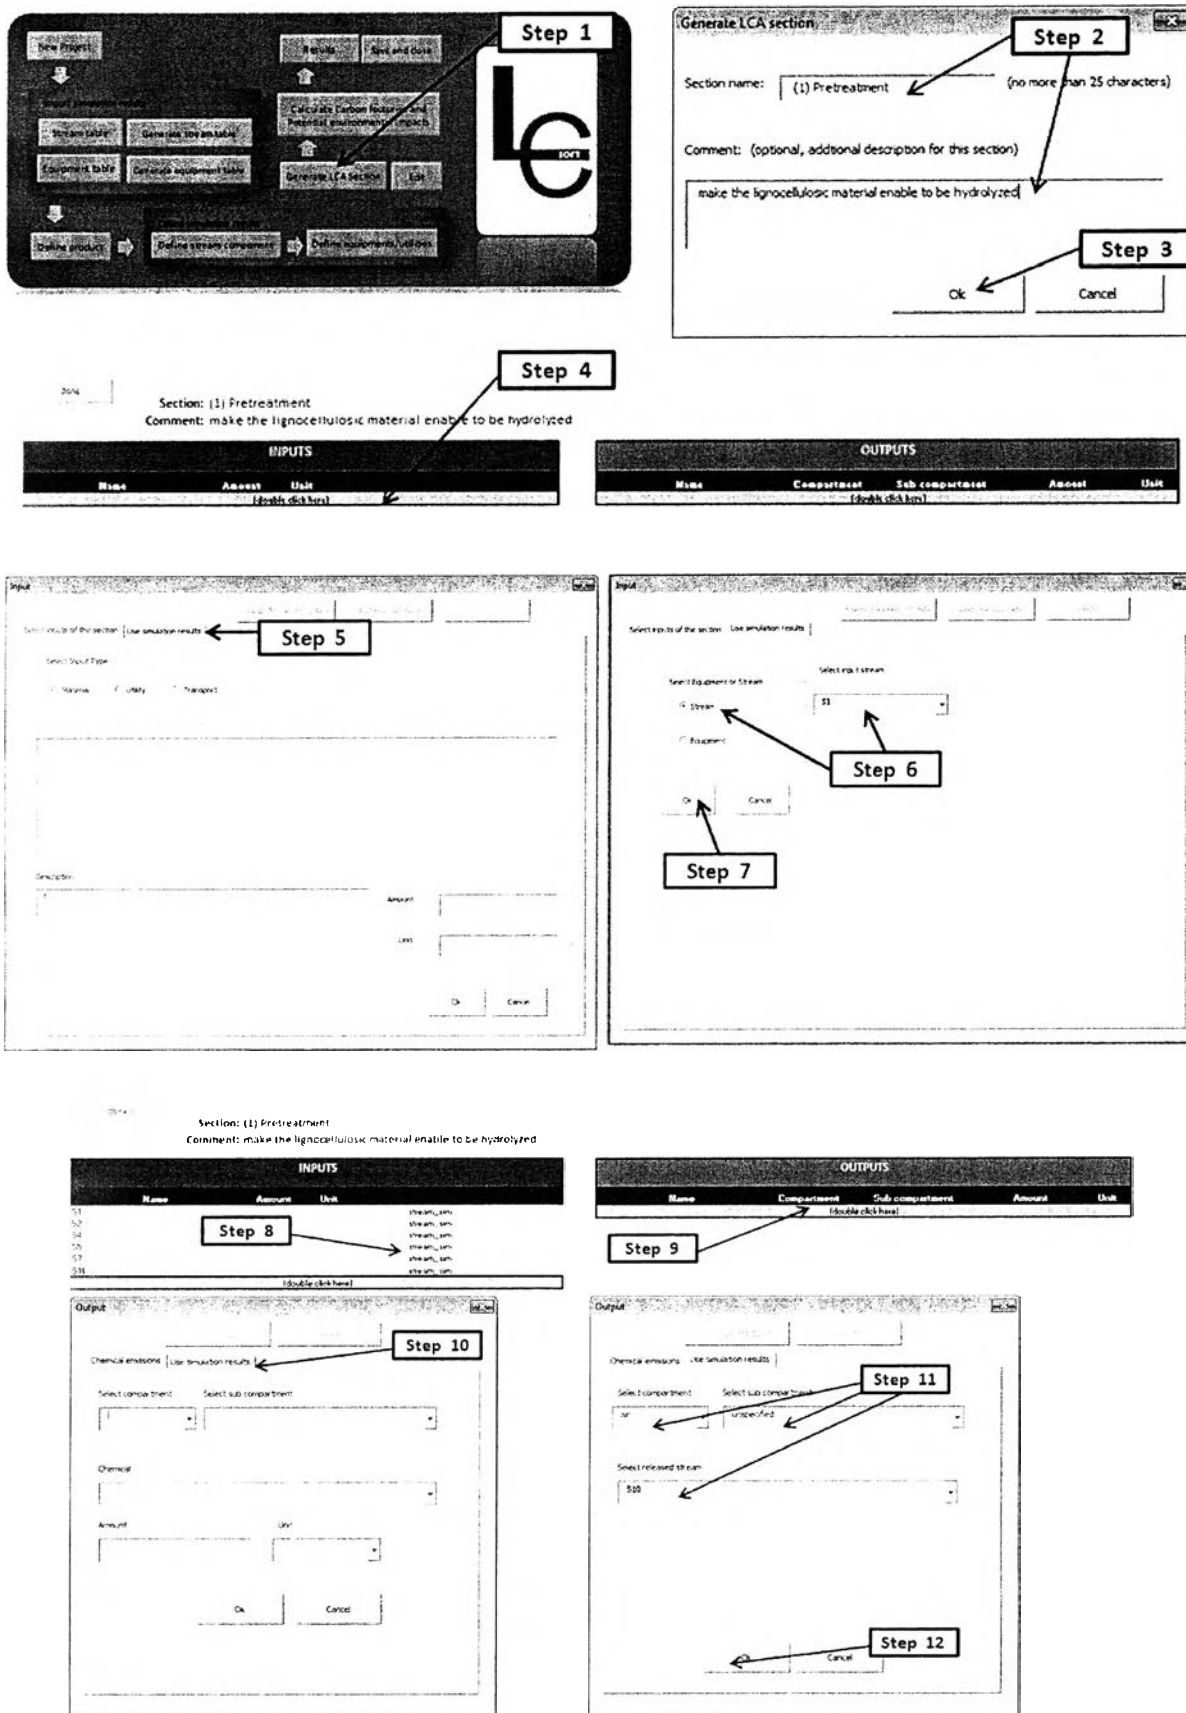

Figure A.19 Steps to generate LCA section
(1) Pretreatment, (2) Detoxification, (3) SSCF, (4) Distillation, and (5) Dehydration
Step 1: Click on “Generate LCA section” button as shown in Figure A.19.
Step 3: Click “OK” button, the section “(1) Pretreatment” page will appear.
Step 8: Do step 4-7 until S1, S2, S4, S5, S7, and S14 are all selected (Figure A.19).
Step 9: Double click on cells in Figure A.19 then the “Output” form will appear.